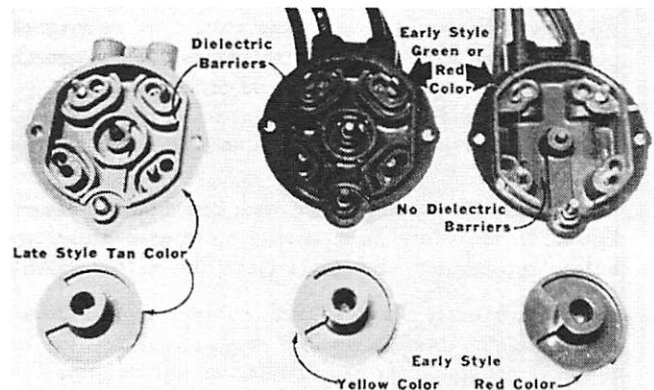

Figure 45A. Rotor and End Cap Identification
6. A new 4-cylinder magneto rotor and end cap cover, which limit arcing and electrical leakage paths, are available as replacement parts. The rotors and end cap covers are manufactured from a new material which has high dielectric characteristics that make them exceedingly resistant to moisture. (Figure 45A)
7. If there are 4-cylinder model motors in your area which are experiencing an arcing or leakage condition in the magneto end cap cover, we recommend that a new rotor and cap be installed. (Figure 45A)